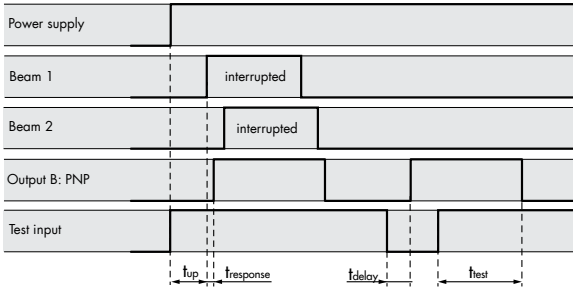

**Figure 10:** Connecting of the connector
- ▶ Every device needs to be separately connected to the corresponding control device. For electrical connection, see Figure 10.
4. Connect wires (see Figure 10)
5. Connect wires (see Figure 10)